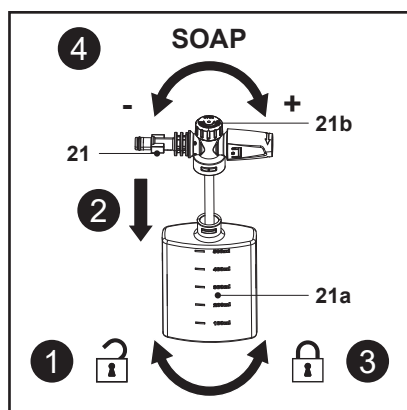

Fig. 13
Refilling and using detergent as shown in Fig. 13.
1. Hold the detergent bottle nozzle (21), then unlock and remove the bottle (21a) (Fig. 13, step 1).
2. Ensure that the water supply pipe is properly secured to the detergent nozzle (21).
4. Place the detergent bottle nozzle (21) onto the bottle (21a) (Fig. 13, step 2).
5. Hold the detergent bottle nozzle (21), then lock the bottle (21a) firmly on it (Fig. 13, step 3).
6. Rotate the adjustable knob (21b) clockwise to perform high-dose soap washing, and counterclockwise to perform low-dose soap washing (Fig. 13, step 4).
7. Assemble the detergent bottle nozzle (21) directly to the spray gun (16) or assemble it through the extension pole (18).
8. The detergent bottle nozzle (21) is ready for use.